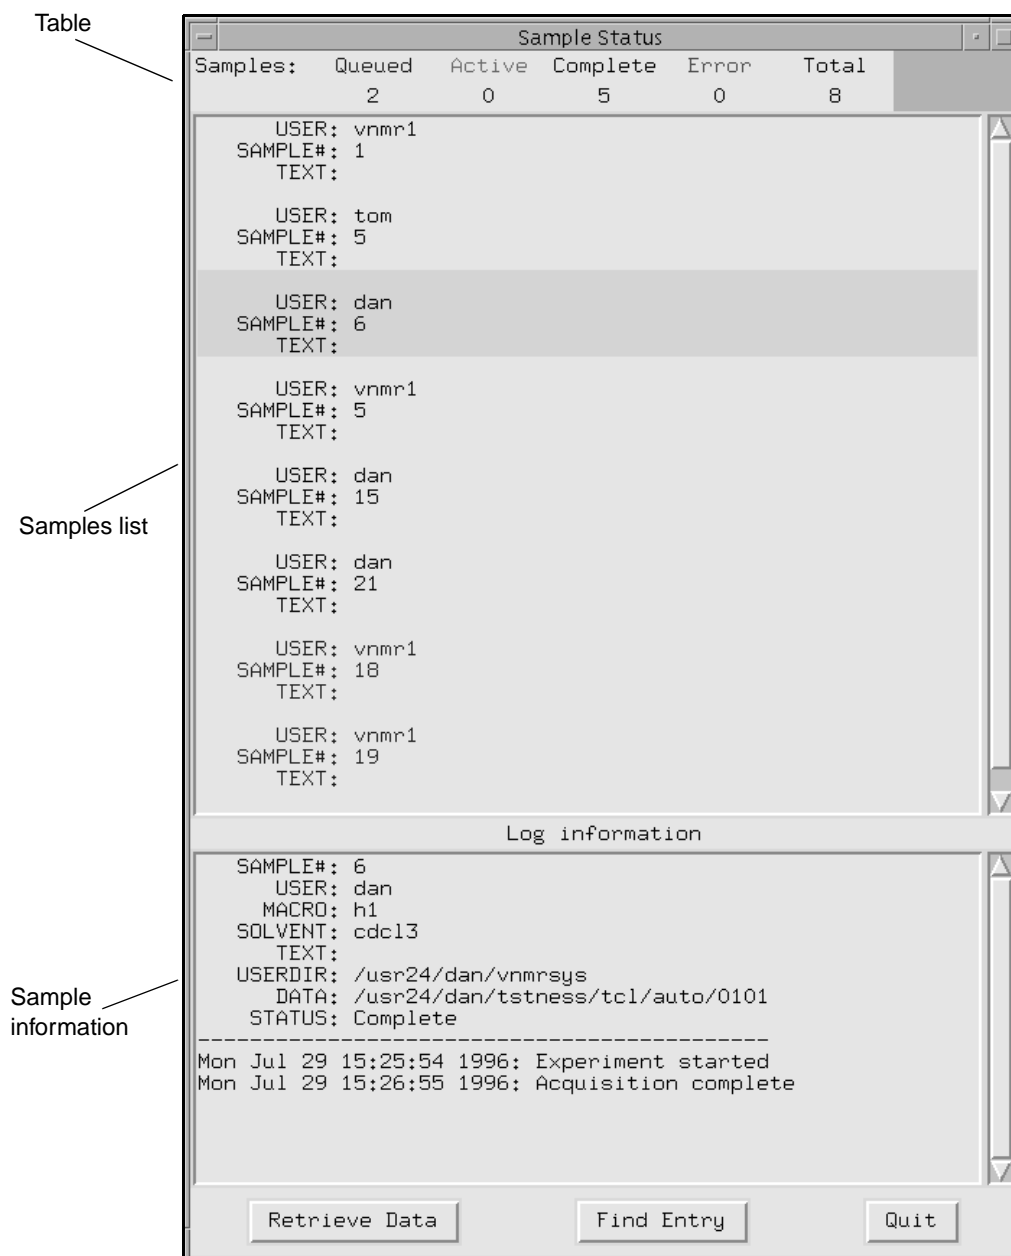

Figure 71. Sample Status Window (status Program)
- To monitor an automation run, enter **status** in the VNMR input window. The Sample Status window appears, as shown in Figure 71.